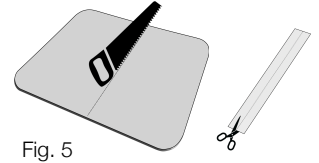

Fig. 5
10. For solo or minimalist travellers you may like to cut your kettle board in half using a fine tooth saw (Fig. 5). Use supplied tape to seal exposed edges (cut tape lengthwise and apply to both edges)